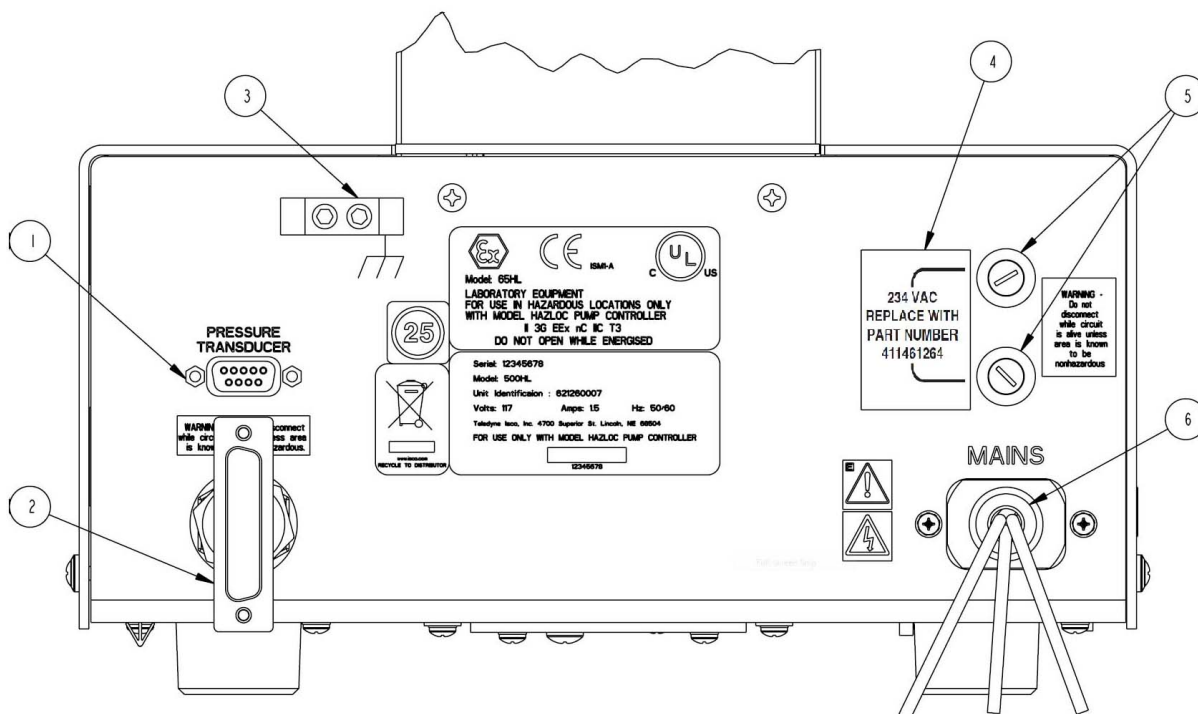
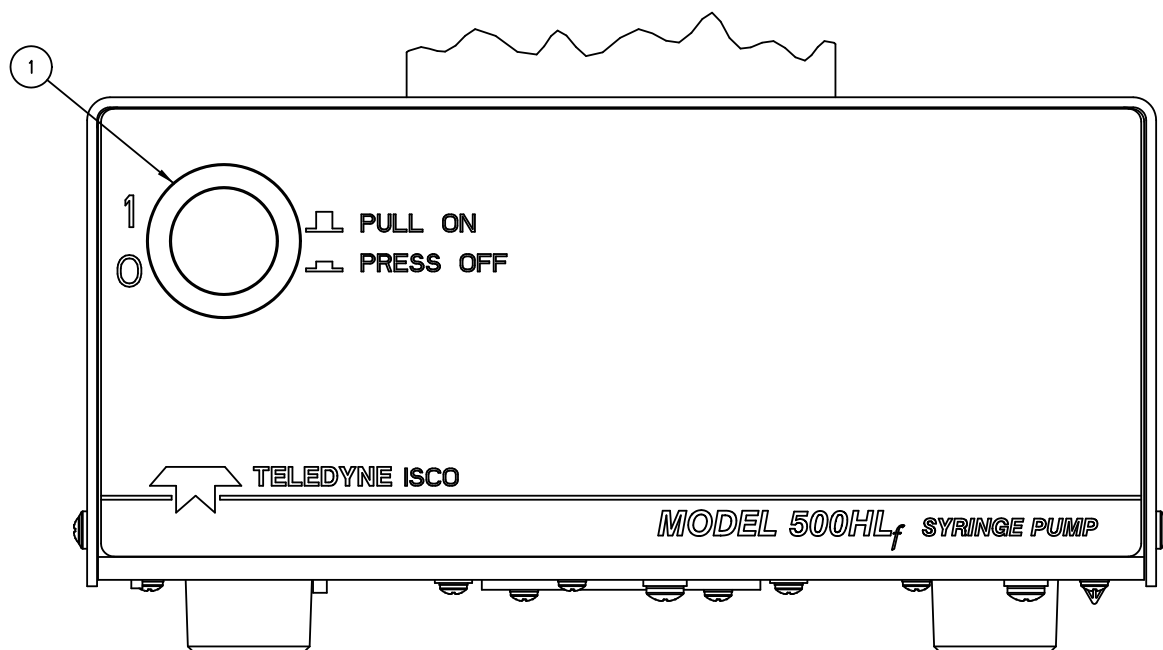

Figure 1-7 Pump rear panel connectors
Figure 1-8 Pump front panel controls
The only operational control on the pump itself is the power switch, shown in Figure 1-8. The rear panel has several connectors, described in Table 1-8, and shown in Figure 1-7.
1. Connect the pressure transducer cable (which originates from the top of the pump cylinder) to the nine pin sub-D PRESSURE TRANSDUCER connector on the pump rear panel (Figure 1-7). Be sure to tighten the screws.